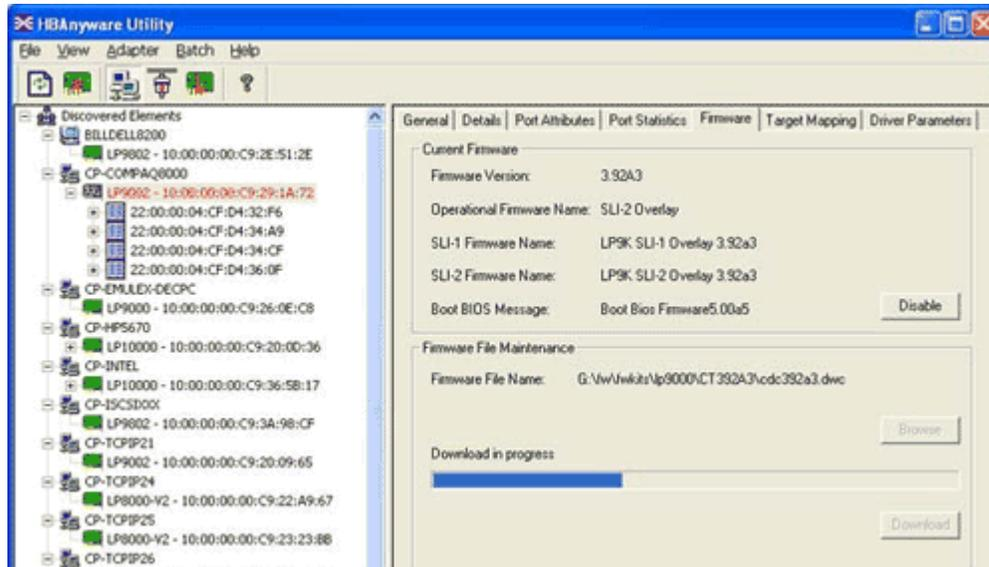

Figure 44: HBAAnyware Utility, Firmware Tab
1. Start HBAnyware. If the x86 BootBIOS bootup message is enabled when you boot the system (**Firmware** tab, button title is **Disable** - Figure 44), skip to step 2.
2. If the x86 BootBIOS bootup message is enabled when you boot the system (**Firmware** tab, button title is **Disable** - Figure 44), skip to step 3. Otherwise continue with step a.